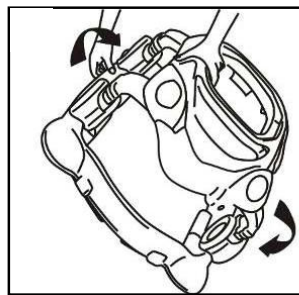

**Figure 3**
- Legs with round pins enter the round holes at the base, as per **Figure 3**.